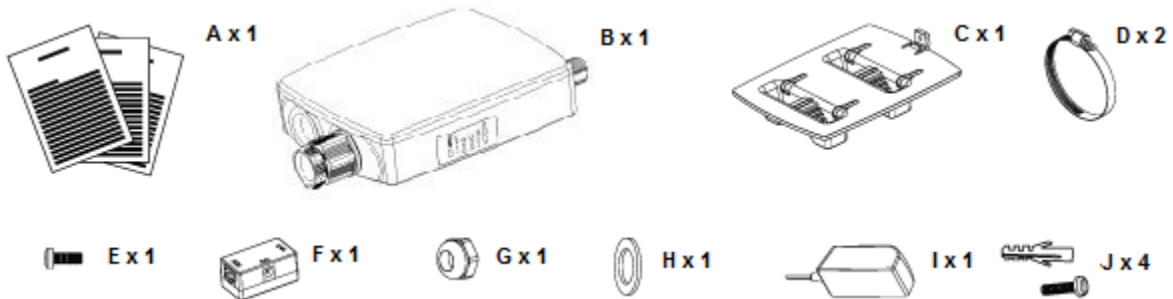

Figure 1 – APC 2M Package Contents
- Step 2.** Insert the clamps (item D in the *Figure 1 – APC 2M Package Contents*) on the mounting plate (item C in the *Figure 1 – APC 2M Package Contents*) as displayed below:
- Step 5.** Connect Ethernet cable into the APC 2M then insert a rubber gasket (item H in the *Figure 1 – APC 2M Package Contents*) into CAT5 Ethernet connector gland and tighten with gland cap (item G in the *Figure 1 – APC 2M Package Contents*) as displayed below:
- Step 6.** After attaching the APC 2M to the mounting plate, fasten the unit to the bottom near the CAT5 Ethernet plug using screw (item E in the *Figure 1 – APC 2M Package Contents*).
- Step 2.** Attach APC 2M mounting plate (item C in the *Figure 1 – APC 2M Package Contents*) to the wall using screws (item J in the *Figure 1 – APC 2M Package Contents*) as displayed below:
- Step 3.** Connect Ethernet cable into the APC 2M then insert a rubber gasket (item H in the *Figure 1 – APC 2M Package Contents*) into CAT5 Ethernet connector gland and tighten with gland cap (item G in the *Figure 1 – APC 2M Package Contents*) as displayed below:
- Step 5.** After attaching the APC 2M to the mounting plate, fasten the unit to the bottom near the CAT5 Ethernet plug using screw (item E in the *Figure 1 – APC 2M Package Contents*).